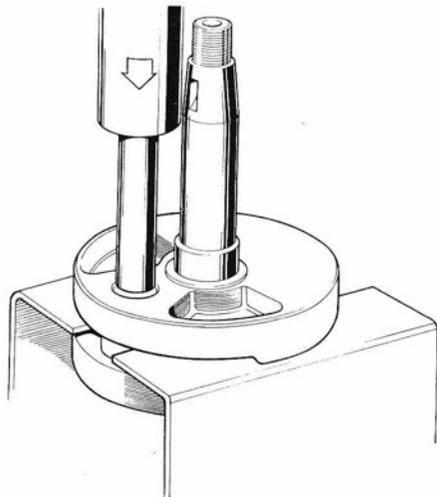

Fig. 16 Supporting the crankshaft assembly whilst pressing out the crankpin.
- 2 Using support rig, part No. ST 5166 below the top crankcheek as shown in *Fig. 16* support the crankshaft assembly in a suitable press (a fly press is ideal).